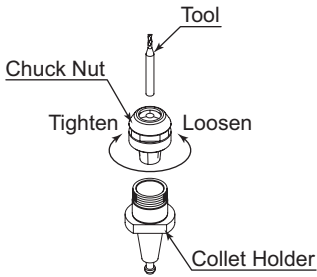

Fig. 6
- ② Attach the collet chuck and chuck nut to the collet holder and lightly finger tighten. (Do not completely tighten until the end.) (Fig. 6)